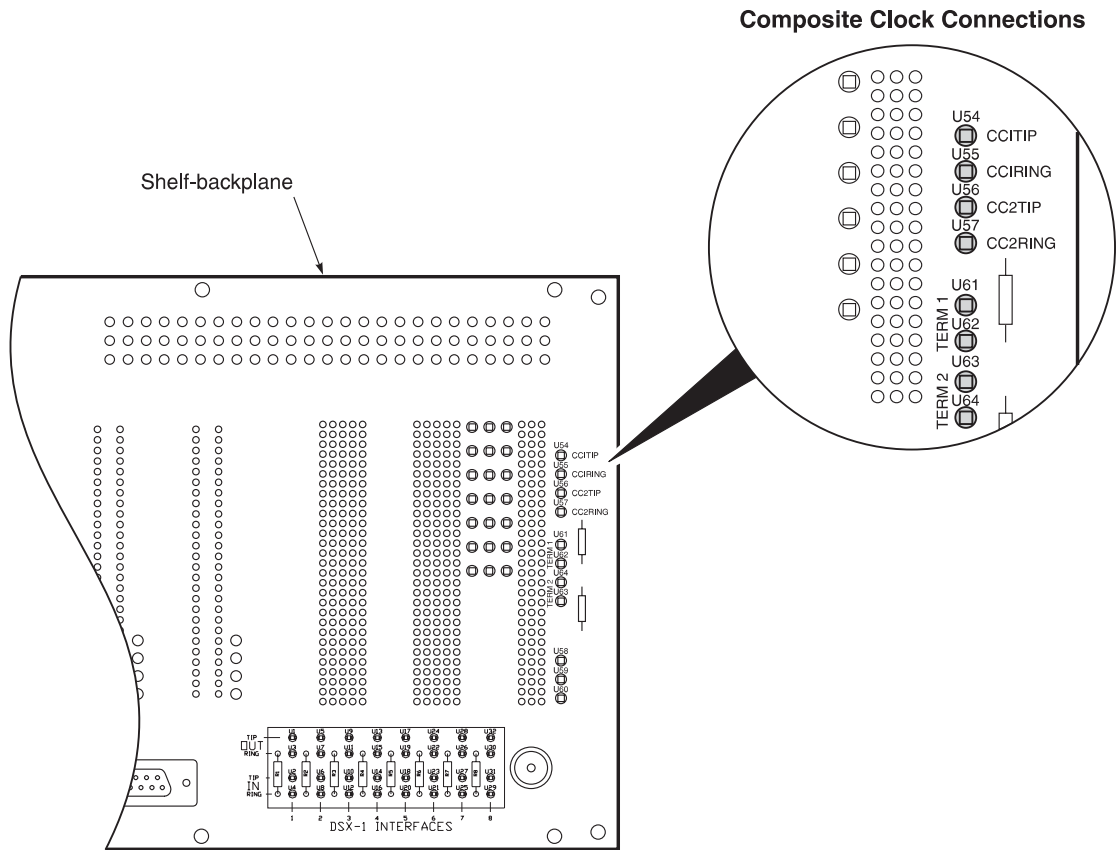

Figure 10 Composite Clock Wire Wrap Assignment
Termination resistors (TERM1 and TERM2) are located below the composite clock wire-wrap pins to provide the correct termination on the composite clock pins. To terminate the clock leads from the Telco Timing Source Generator to the backplane: Connect CC1TIP to one terminal of TERM 1, and CC1RING to the other terminal on TERM 1 (Figure 10).
- 1 Connect CC1TIP to one terminal of TERM 1, and CC1RING to the other terminal on TERM 1 (Figure 10).
- 2 Connect CC2TIP to one terminal of TERM 2, and CC2RING to the other terminal on TERM 2 (Figure 10) if a second composite clock source is to be used.